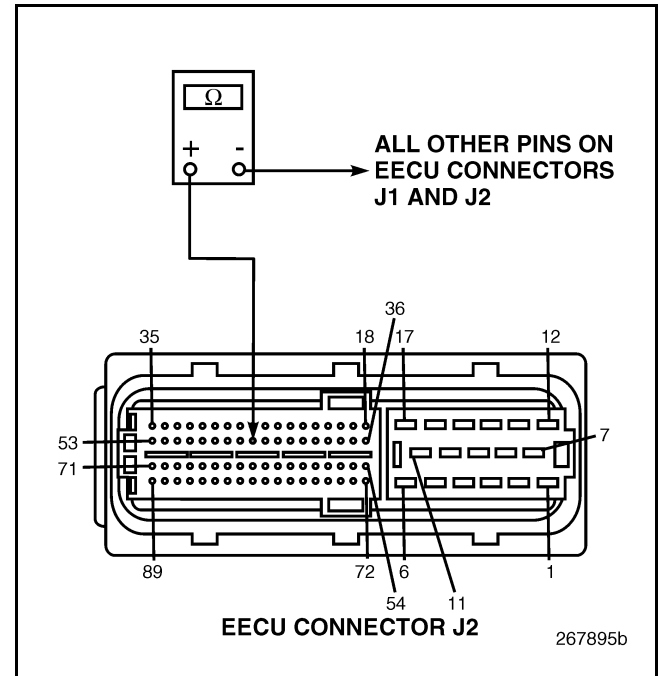

Figure 30
4. Check for continuity between EECU harness connector J2 pin 45 (signal line) and all other pins in EECU harness connectors J1 and J2 (see Figure 30).